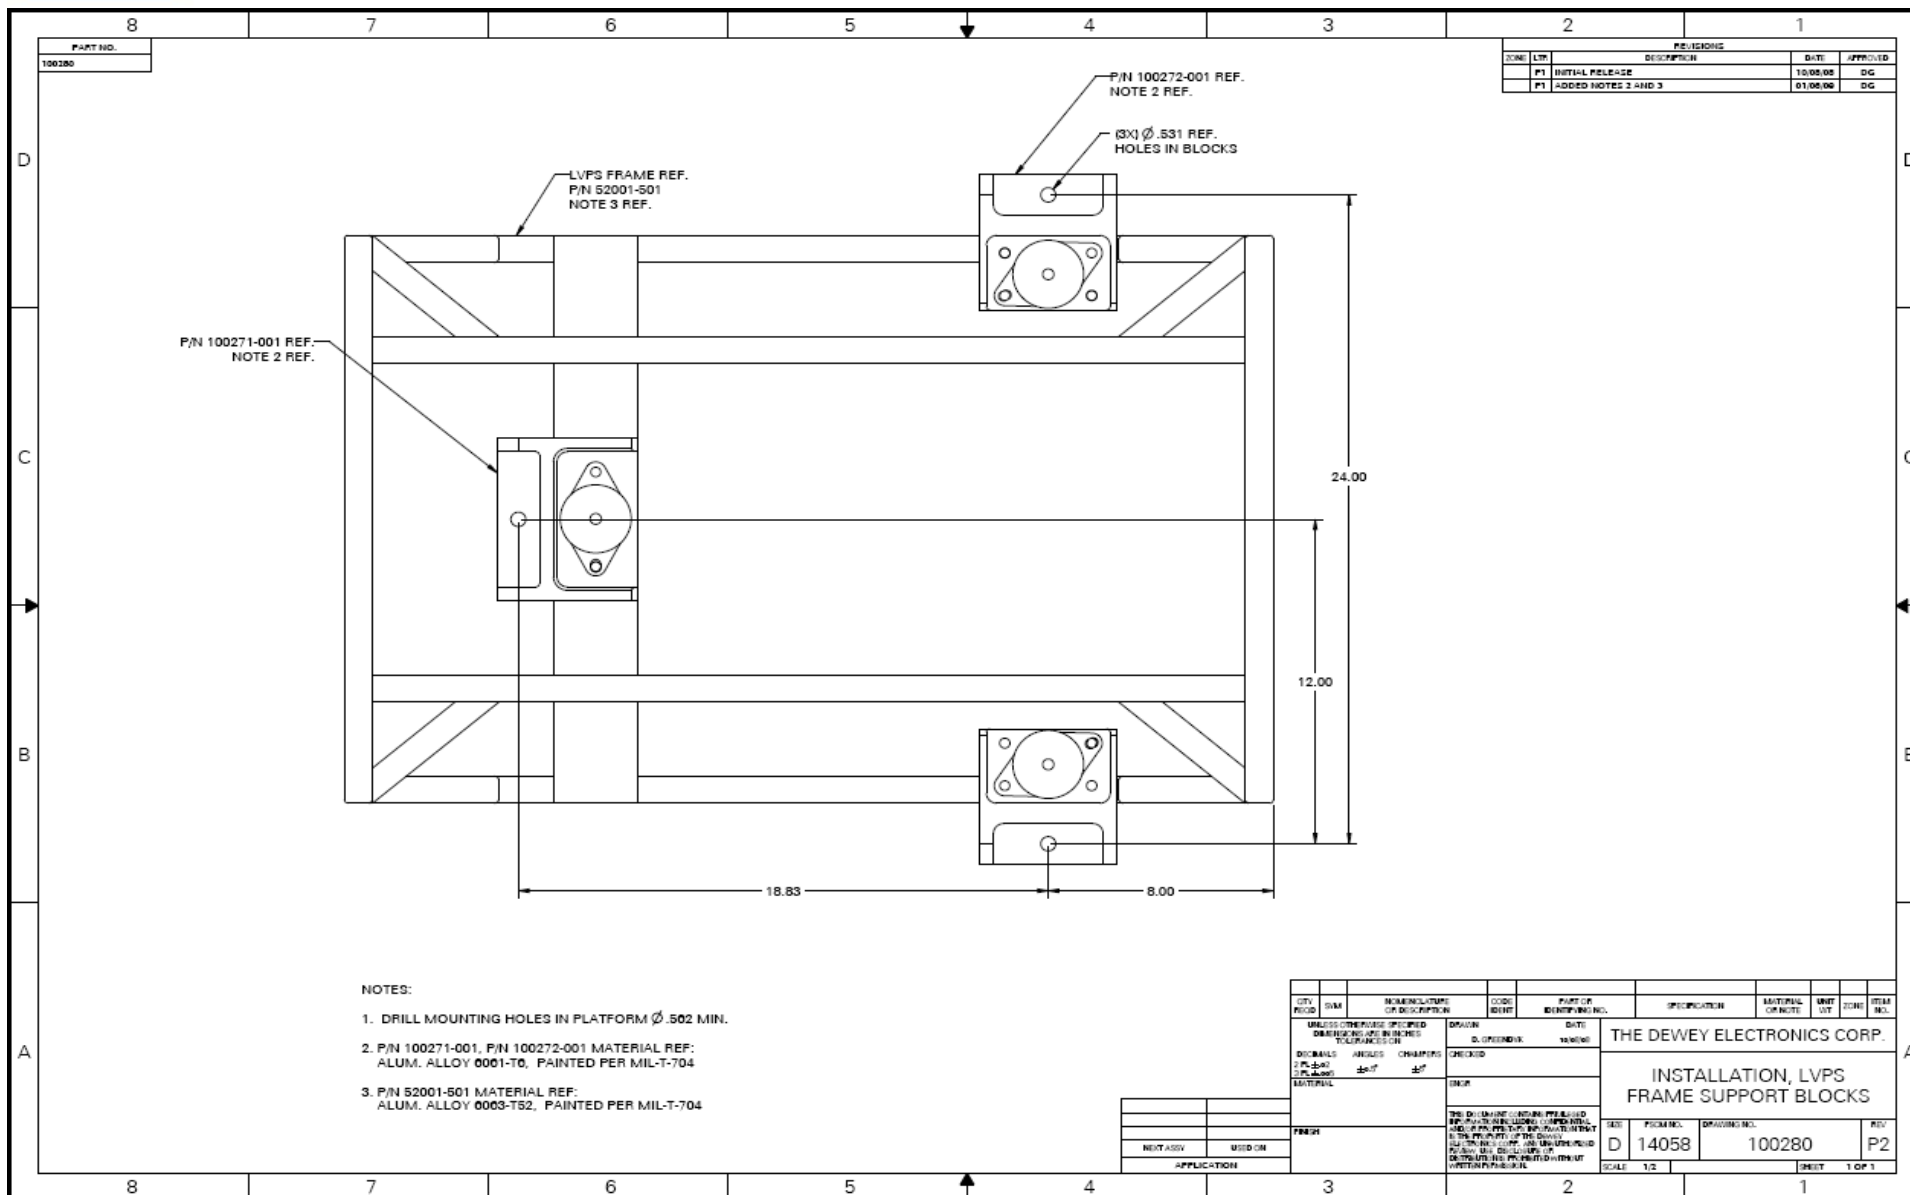

Figure 4.1
Rugged mounts, part numbers 100271-001 (1) and 100272-001 (2) have been added to the frame. These mounts provide three points for mounting the LVPS to a secure surface. The Installation Drawing in Figure 4.1 defines the dimensions of the mounting point in reference to the LVPS frame. It also calls out the materials used to make the mounts.